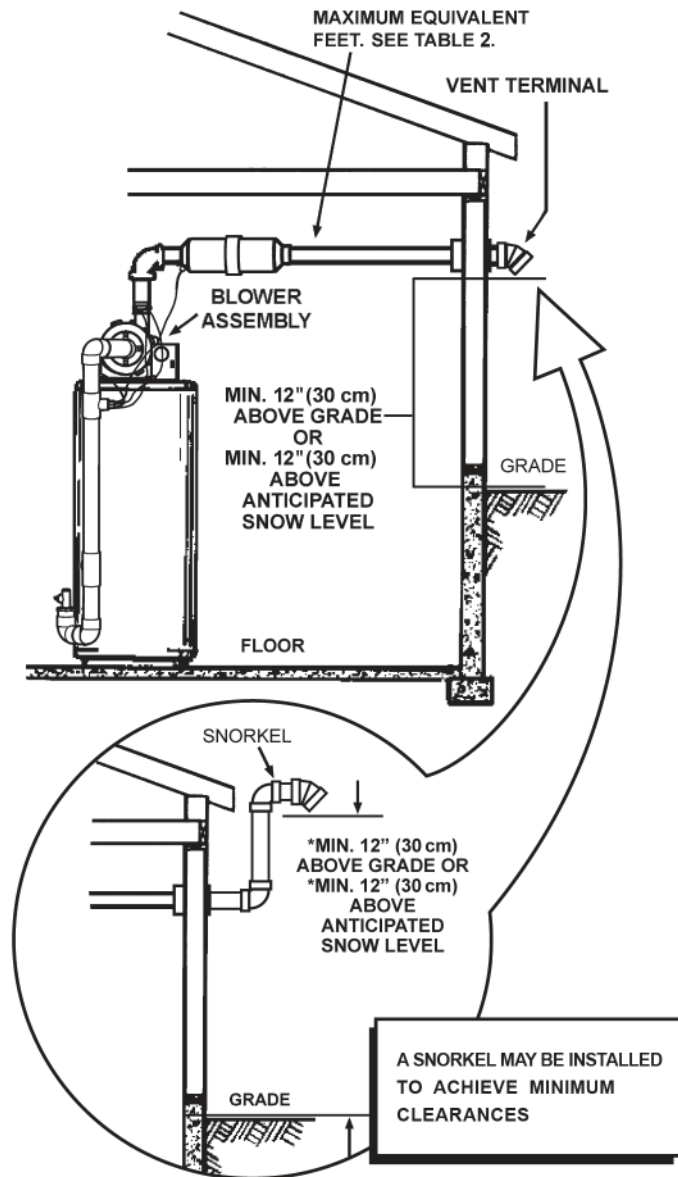

FIGURE 20
If necessary to achieve the 12 inches (30 cm) minimum clearance above the highest anticipated snow level, install a snorkel as shown in bottom portion of Figure 20.
1. Vent Termination must extend a minimum of 12 inches (30 cm) above roof or 12 inches (30 cm) above the anticipated snow level to prevent blockage of the vent termination, as shown in Figures 20 and 21.